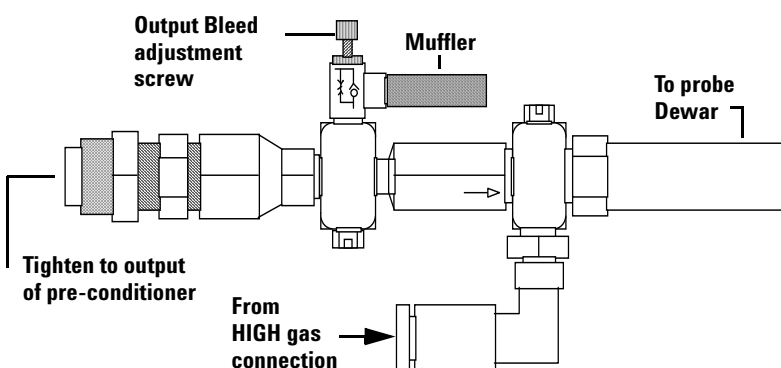

Figure 8 Pre-conditioner output assembly and connections
- 2 Make the following connections at the output of the pre-conditioner, Figure 8 on page 21.
- 4 Close the valve located on the output of the pre-conditioner unit, see Figure 8 on page 21.
Do not open the output bleed valve of the pre-conditioner too far. During normal low temperature operation, the VT gas will flow out of the bleed muffler and not into the probe see Figure 8 on page 21.